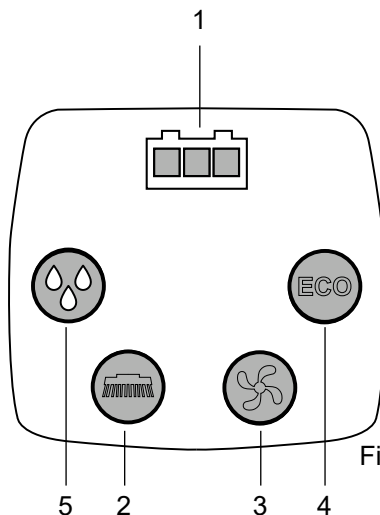

Fig.15
- Battery charge indicator (battery powered models only) (fig. 15, ref. 1): consists of 3 Leds, red, yellow and green, showing the battery charge level. Possible charge level indications:
- Brush control button (fig. 15, ref. 2): enables (Led alight) and disables (Led dark) operation of the "Brush" function; the brush does not start rotating until the "Brush control lever"(fig. 15, ref. 2) is operated.
- Suction control button (fig. 15, ref. 3): switches on ("Led alight") and switches off ("Led dark") the suction motor, which generates the vacuum needed to dry the floor after scrubbing. The motor comes into operation only when activated by way of the "Brush control lever".
- Detergent flow button (fig.15, ref. 5): enables (Led alight) and disables (Led dark) the flow of detergent solution, with three levels of delivery available. Flow is enabled only with the brush in operation.
- ECO button (fig.15, ref. 4): enables (Led alight) and disables (Led dark) ECO operating mode.